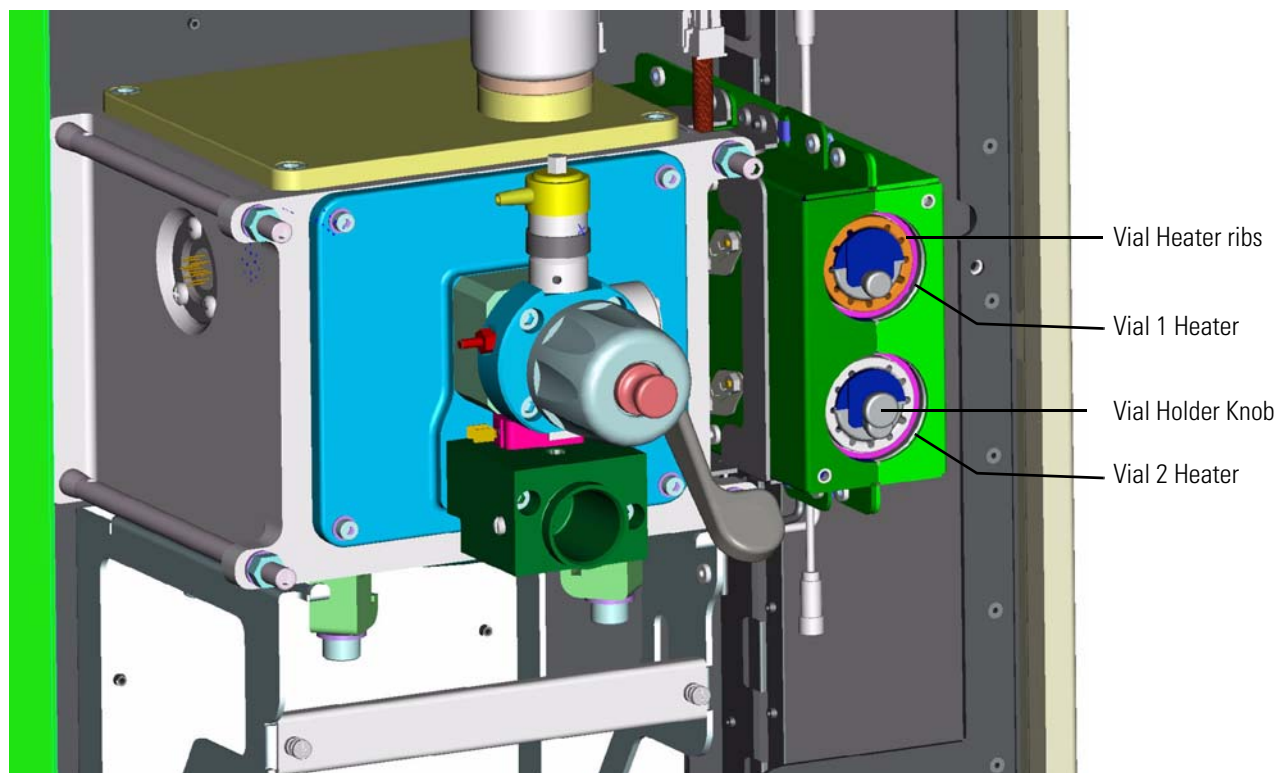

Figure 3-47. ETD Module with vial heater cover removed
6. Remove the empty vial if it is present. The vial holder is a cylindrical tube with a handling knob at one end and ribs along its length. See Figure 3-46. These ribs prevent the vial holder from rotating once it is placed into the vial heater. Figure 3-47 on page 3-53 shows the tab and ribs of a vial holder in the vial heater.